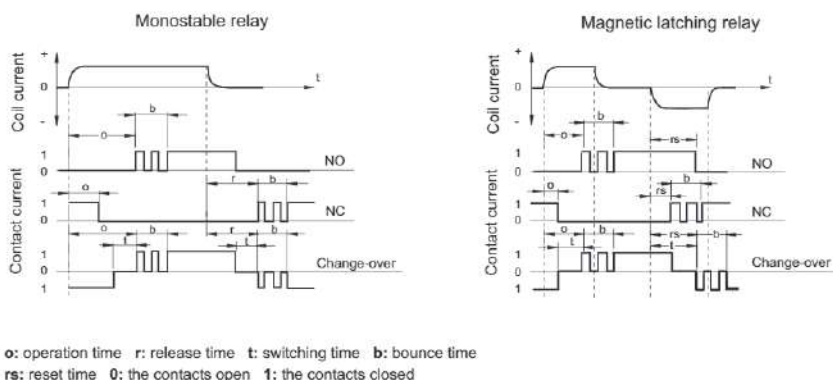

Figure 2
For the latching relays, operation time refers to, with the relay in the reset state, the elapsed time from the initial application of power to the coil, till the closure of the normal open contacts. Seen in figure 2.
- 2.4 Release time** refers to, with the relay in the operation state, the elapsed time from the initial removal of coil power till the re-close of the normal closed contacts. It does not include bounce time and expressed in "ms". Seen in figure 2.
- 2.5 Reset time** (only for the latching relays) refers to, with the relay in the operation state, the time from the first application of power to the reset coil till the re-close of the normally closed contacts. Seen in figure 2.
- 2.6 Bounce time** generally refers to the time from the initial close of the contacts till the complete close and generally expressed in "ms". Seen in figure 2.